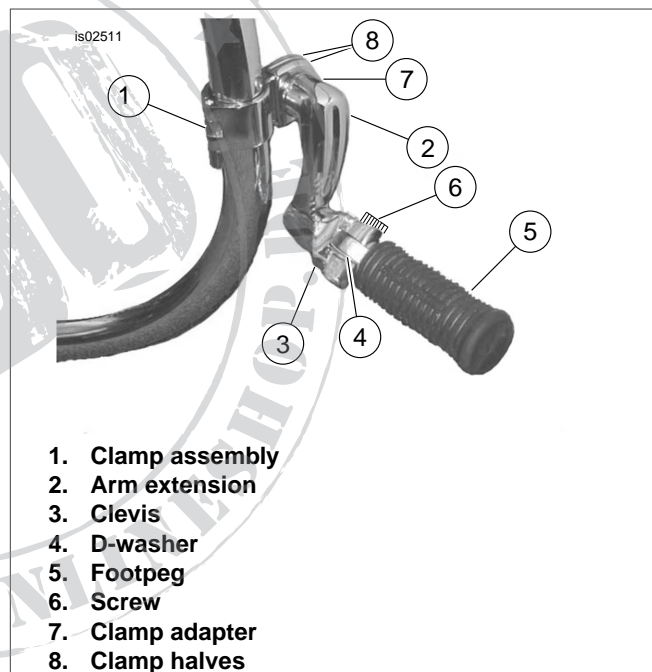

Figure 1. 360 Degree Footpeg Mounting Installed (Shown with Footpeg Installed)
7. Refer to Figure 1. Obtain the footpeg (5), sold separately, D-spring washer (4) and screw (6) from kit. Install the D-spring washer so it is positioned inside the clevis (3) with the square "D" edge towards the inside of the mount. Hold the washer in place and slide the footpeg into position. Install the screw (6) and tighten to 19 ft-lbs (26 Nm).
8. Repeat Steps 1 through 7 for the opposite side. Position the footpeg assemblies so they are at equal heights and symmetrical. Securely tighten each assembly until it cannot be rotated on the guard with reasonable foot pressure, but do not exceed 55 ft-lbs (81 Nm) on item 7.